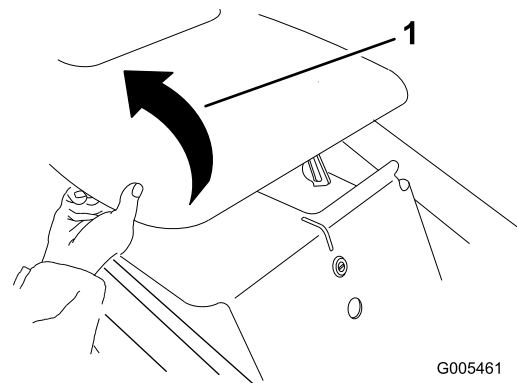

Figure 28
2. Swing the hood up (Figure 28).